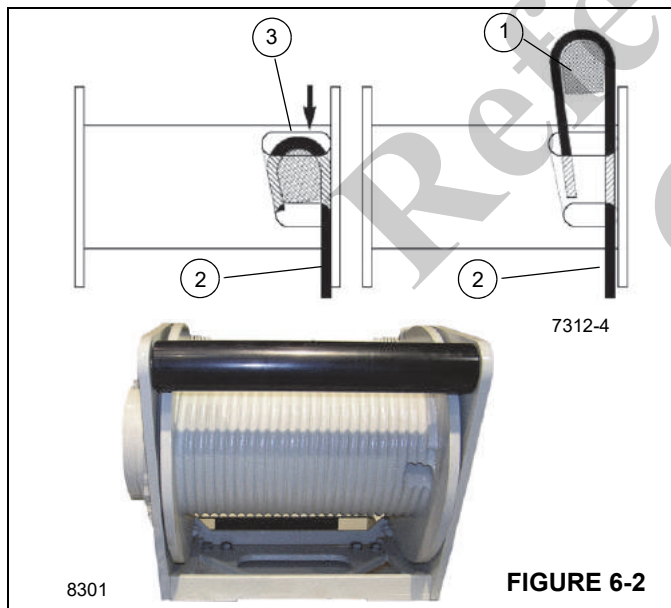

FIGURE 6-2
3. Insert the rope through the slot and position around the anchor wedge (1) Figure 6-2.